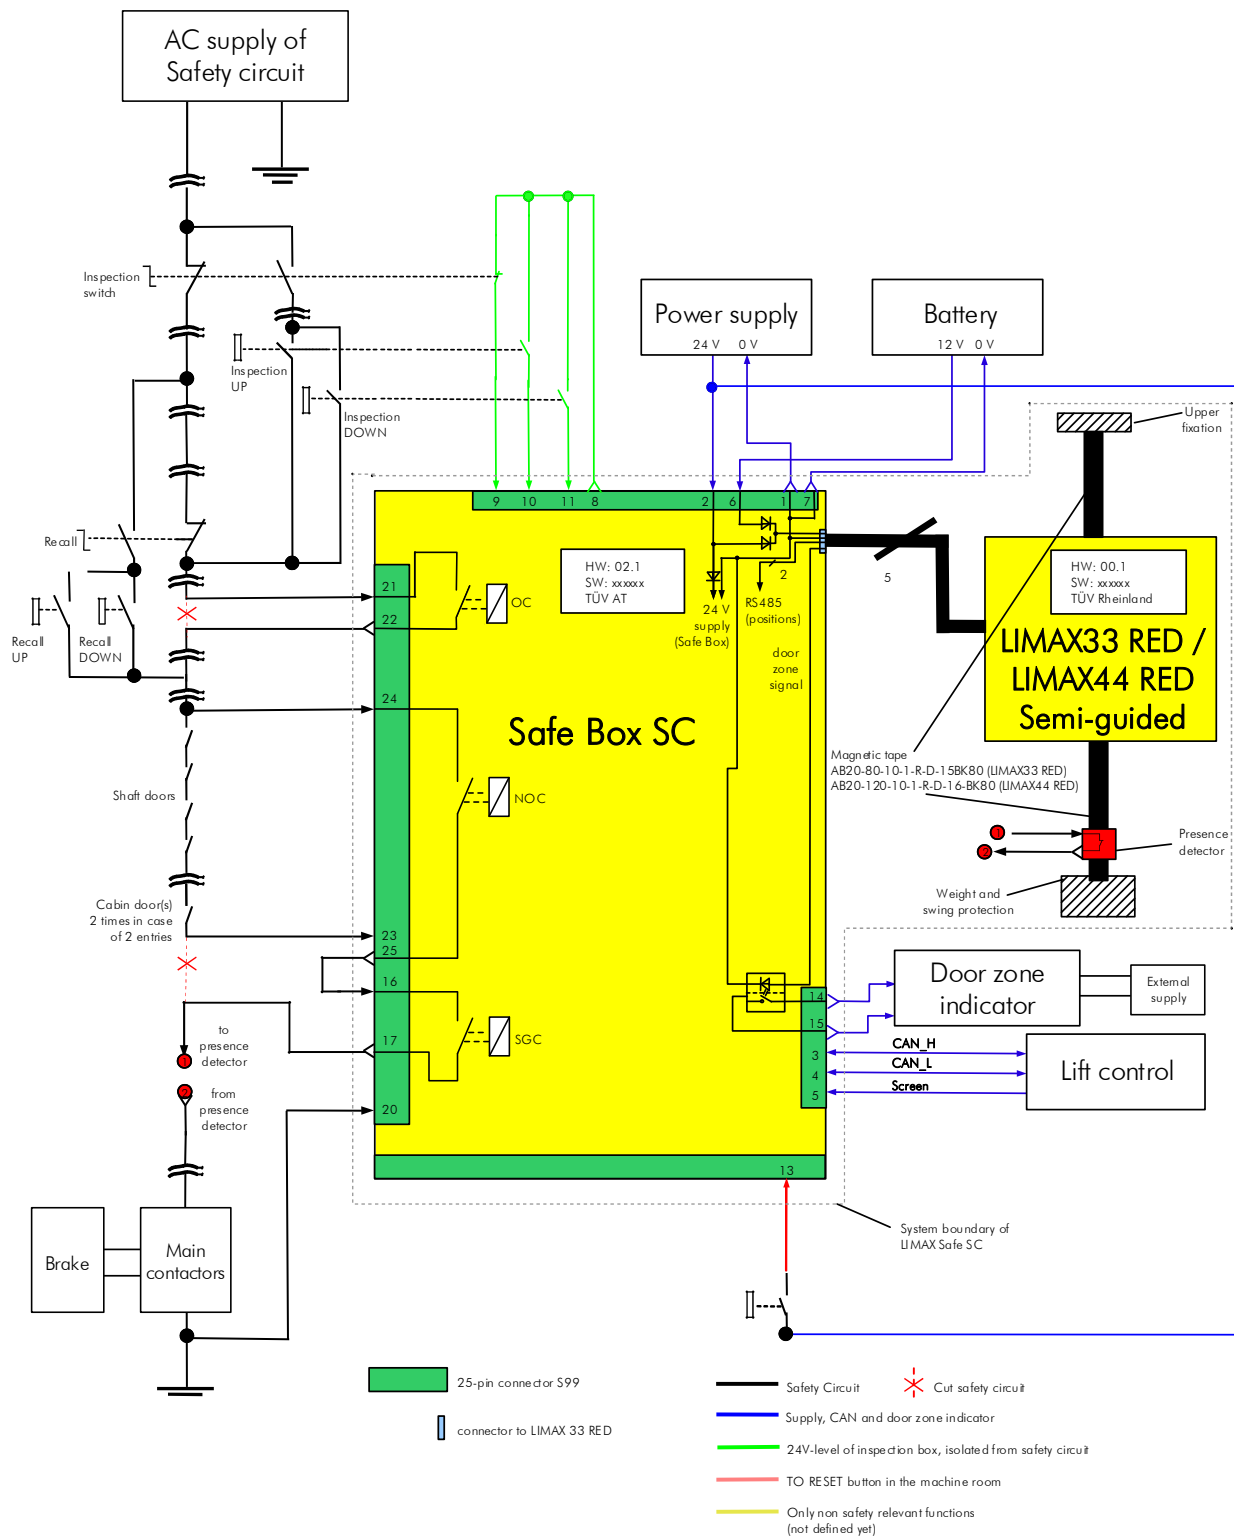
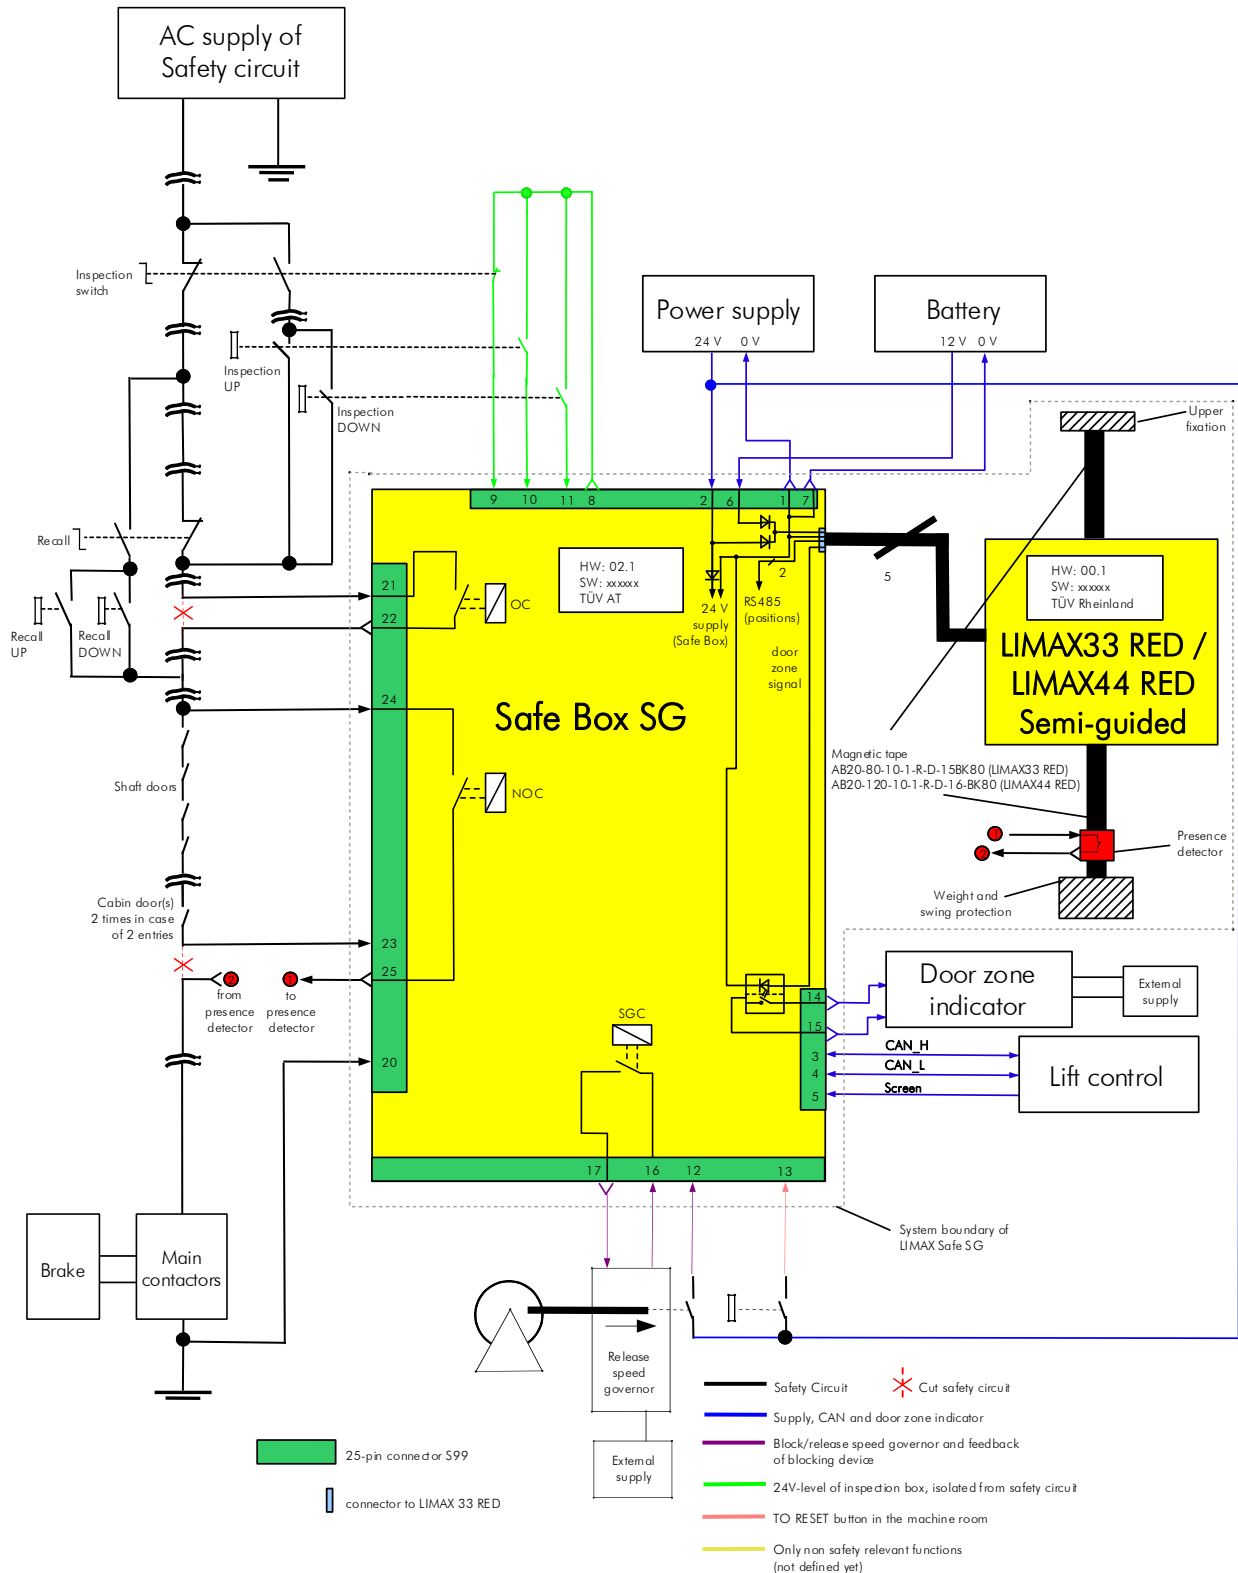
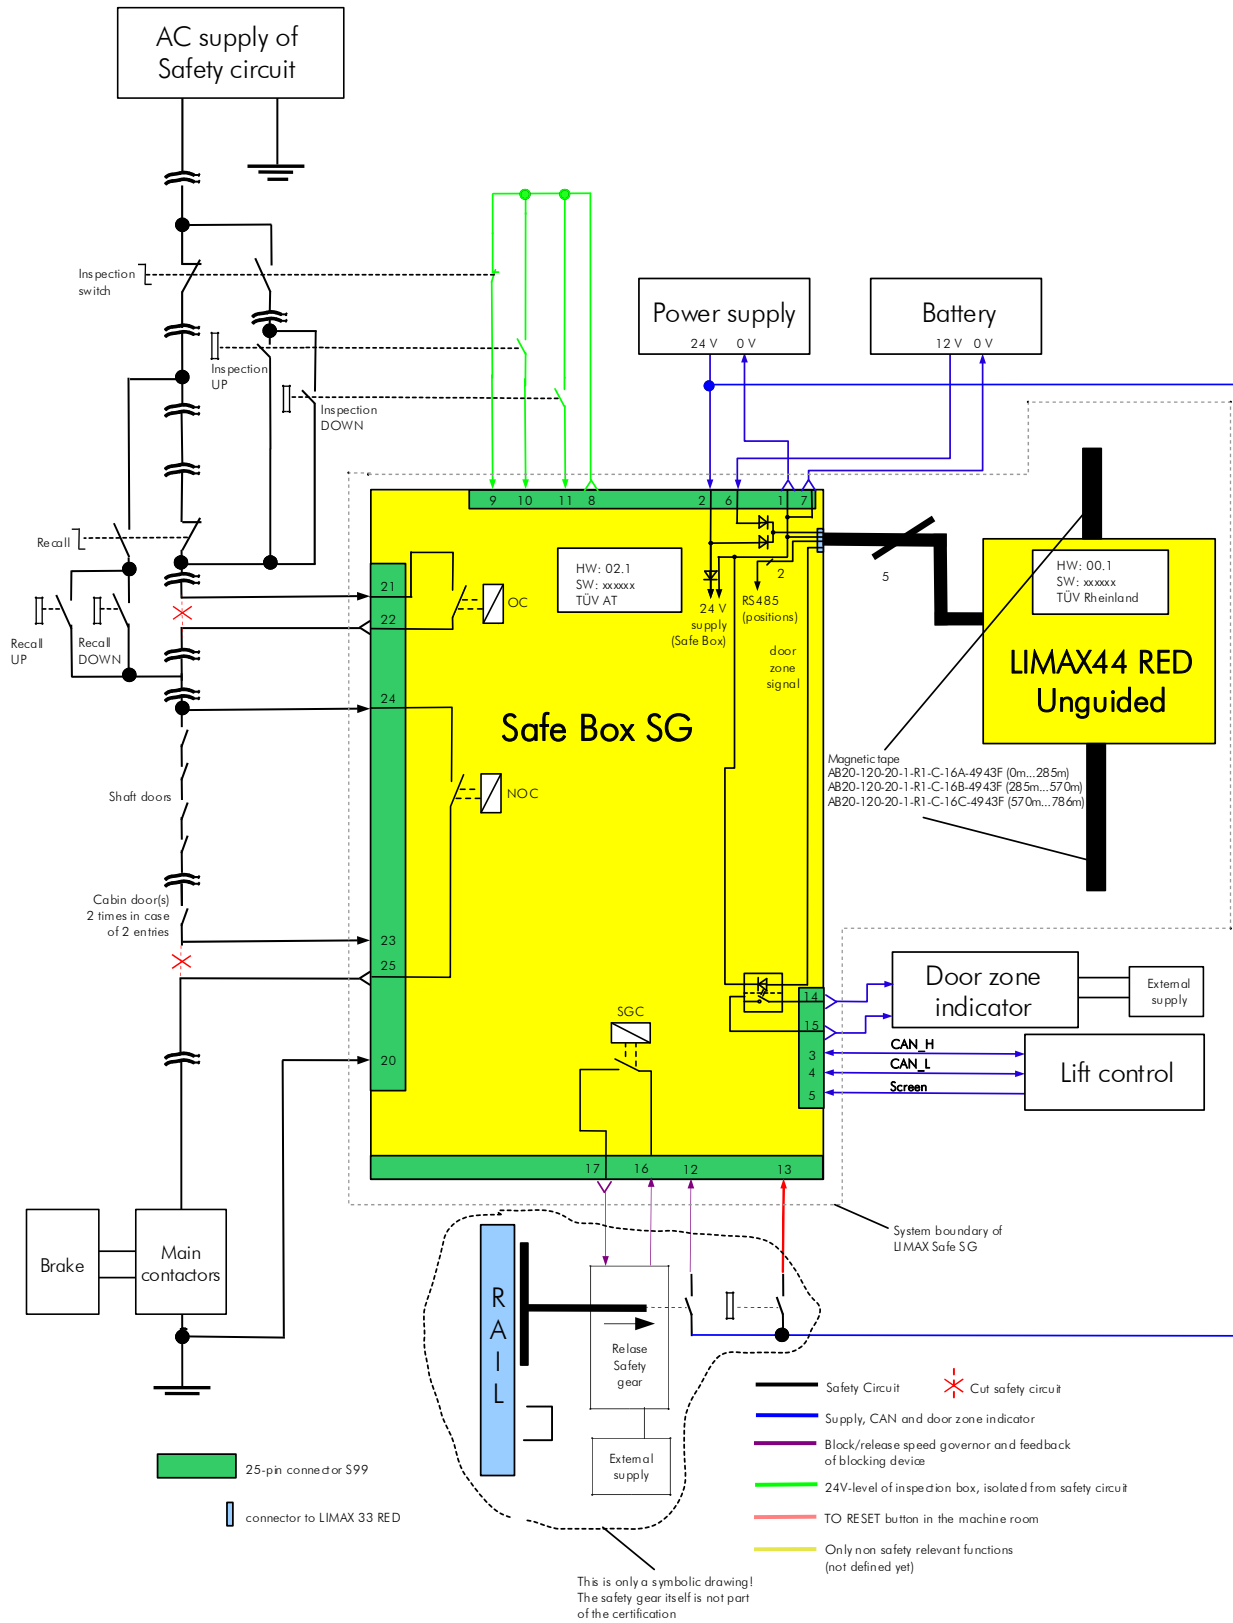
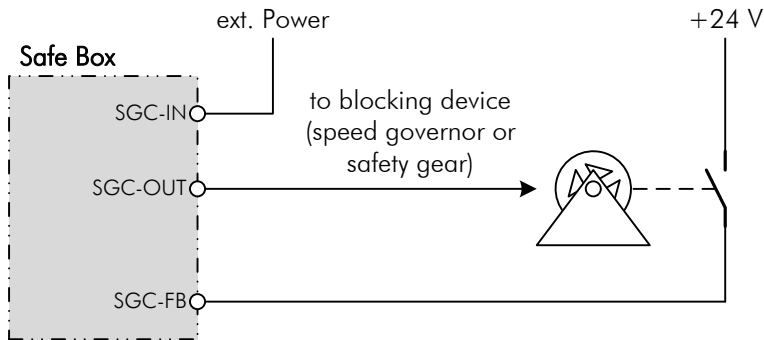

Figure 7: Installation circuit diagram for LIMAX Safe SC with (semi-)guided Sensor
Figure 9: Circuit diagram of LIMAX Safe SG with (semi)guided sensor, SGC connected to an electromechanically driven blocking device on the speed governor
Figure 12: Circuit diagram of LIMAX Safe SG, SGC connected to an electromechanically driven safety gear (unguided Sensor)
Figure 15: SGC integration diagram for LIMAX Safe SG
The integration is placed in a way that assures that OC can be bridged by the recall panel, but not by the inspection control (see Figure 7 to Figure 12).
The safety circuit has to be cut at the end of the door circuit, after the last door contact. The end of the door circuit is no longer directly connected to the safety circuit. Instead it is used as DCS-L input for LIMAX Safe SG/SC. The neutral wire of the safety circuit has to be connected to LIMAX Safe SG/SC (to DCS-N) as well. NOC-IN has to be connected to the beginning of the door circuit and NOC-OUT to the spot where the end of the door circuit was cut (see Figure 7 to Figure 12).
Find more information in Figure 7 to Figure 12.
The reset input is guided over the travelling cable to the control cabinet. There it must be connected to the 24 V supply via a normally open (NO) reset button (Figure 7 to Figure 12).
In any case of LIMAX Safe SG is used, the connection of SGC-IN, SGC-OUT and SGC-FB has to be carried out according to Figure 9 to Figure 12 and Figure 15.